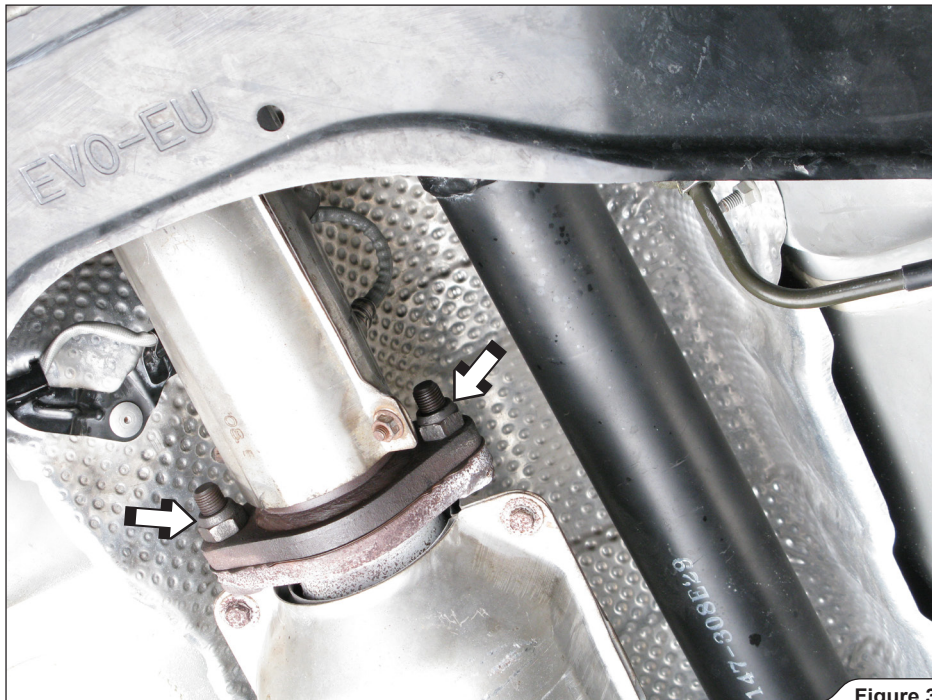

Figure 3
3. **For Evolution only:** unscrew the marked middle pipe - front pipe joint nuts (**Figure 3**).